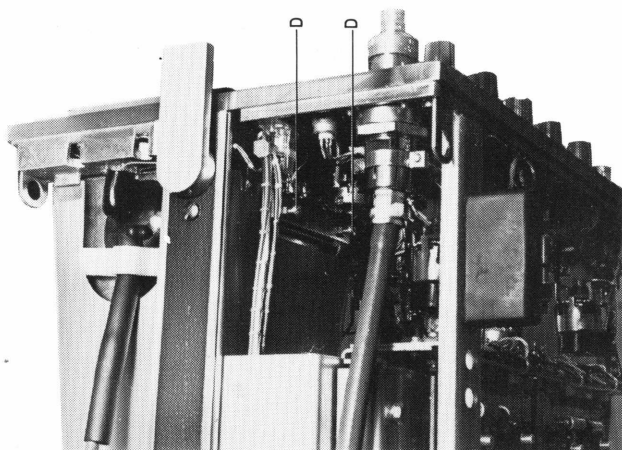

Fig. IX-4 Removing the c.r.t.
- If necessary, adjust the vertical axis and the horizontal axis of the screen by means of screws D (Fig. IX-4) underneath the tube.